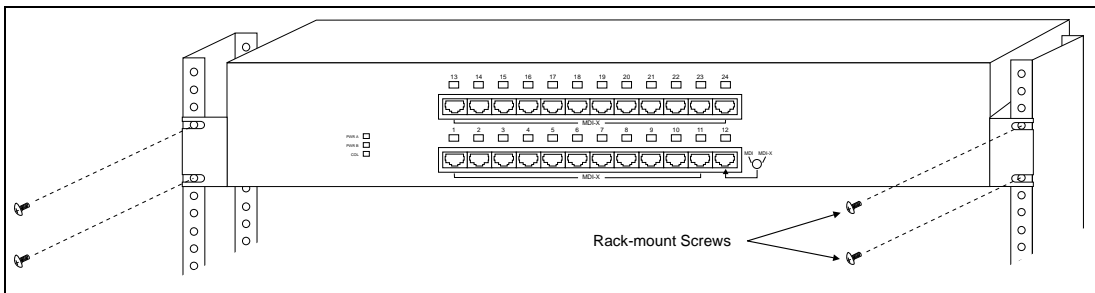

Figure 3-2. Positioning the Repeater in a Rack
3. After you attach both mounting brackets, position the bracket slots over the desired holes on the rack (Figure 3-2). Then insert and tighten the supplied rack-mount screws.